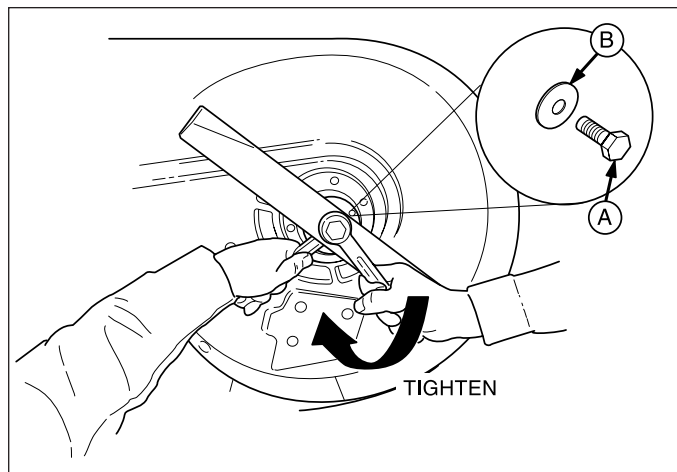

Figure 14. Check the Blade Torque
3. Check that blades are installed with the tabs pointing up toward the deck as shown in Figure 14. Torque the bolts to 70 ft.lbs. (94 N.m.).